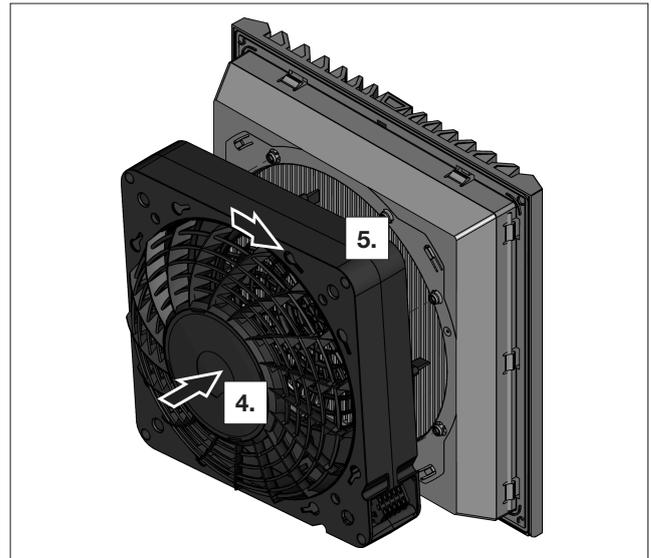

Fig. 11: Locking the bayonet connection
- Place the fan housing back on the filter box (see fig. 11).